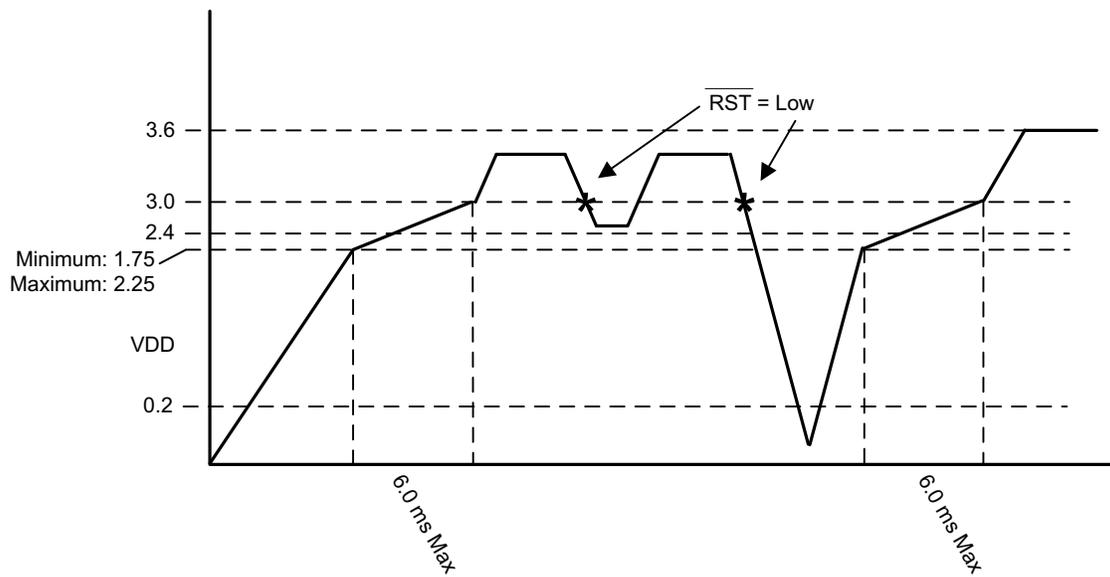

Figure 5. VDD Waveform Signature Limits
1. The VDD power-up, steady state, and power-down waveform meets the timing requirements shown in Figure 5.